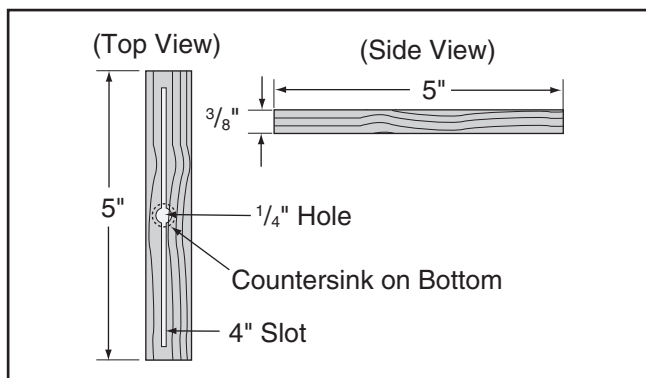

Figure 127. Miter bar pattern.
5. Cut a miter bar that will fit in table miter slot approximately 5" long, as shown in **Figure 127**.